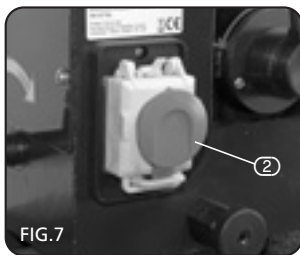

FIG.7
9.1 NO-VOLT ON/OFF SWITCH - FIG. 7
Select a piece of wood 50x50x300mm (approx.) Draw diagonal lines on each end the piece of wood to locate the centres (Fig.7).